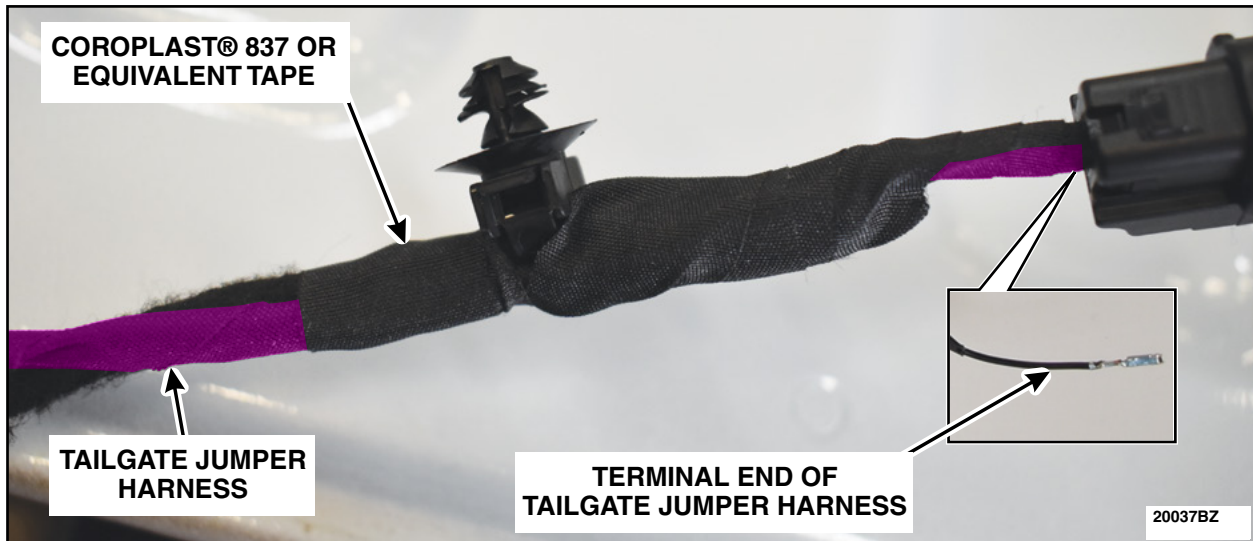

FIGURE 48
67. Install the terminal end of the Tailgate Jumper Harness into the open pin in the tailgate latch control assembly electrical connector. Secure using Coroplast® 837 or Equivalent Electrical Wire Harness Tape. Reinstall the white locking tab. See Figure 48.